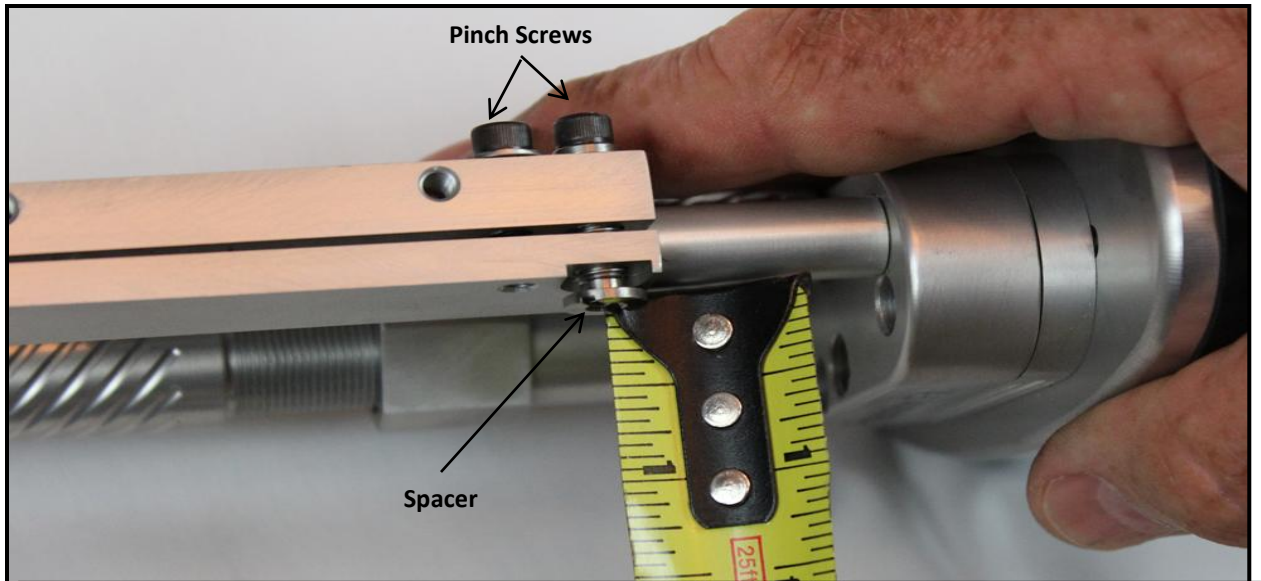

Figure 9
1. Remove Torx comb screws [Ident. **G**] to remove comb [Ident. 5] (Leave the loose screws in the slots.) This will allow access to cast off/cast on spacers [Ident. 11]. **(Figure 9)**
2. Loosen both the outer and inner pinch screw only in the comb mounting split ring. *(The one that locks the cast off spacer [Ident. 11] by screwing into the back side of it.)* **(See Arrows Figure 9)** This will allow the cast off/cast on slotted spacer to be screwed in or out.
4. Spacers must be adjusted so they are the same height in front and rear. Measure with a ruler. **(Figure 9)**